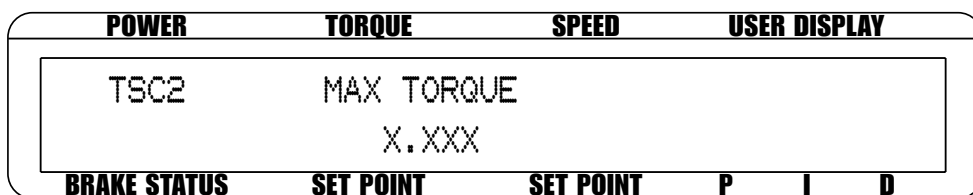
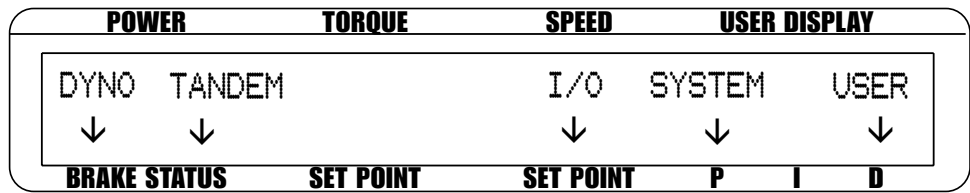

Figure 3-14 TSC2 Powder Brake Setup Menu
Figure 3-21 Tandem Setup Menu
- 5b. If using a Powder Brake Dynamometer, press SHIFT. The display should appear as shown in *Figure 3-14 TSC2 Powder Brake Setup Menu*. Press the TORQUE UNITS button and use ◀ and ▶ buttons and Decrease/Increase dial to set desired max torque. Press SHIFT 2 times to return to the setup menu. See *Figure 3-21 Tandem Setup Menu*.
- 5.a. If using an Eddy Current Dynamometer, press SHIFT. The display should appear as shown in *Figure 3-13 TSC2 Eddy-Current Setup Menu*. Press the TORQUE UNITS button and use ◀ and ▶ buttons and Decrease/Increase dial to set desired max torque. Press the SCALE P button and use ◀ and ▶ buttons and Decrease/Increase dial to set desired nominal speed. Press SHIFT 2 times to return to the setup menu. See *Figure 3-21 Tandem Setup Menu*.
11. Press SHIFT to get to the TSC2 Powder Brake Setup Menu. See *Figure 3-14 TSC2 Powder Brake Setup Menu*.
13. Press SHIFT 2 times. The menu will appear as shown in *Figure 3-21 Tandem Setup Menu*.